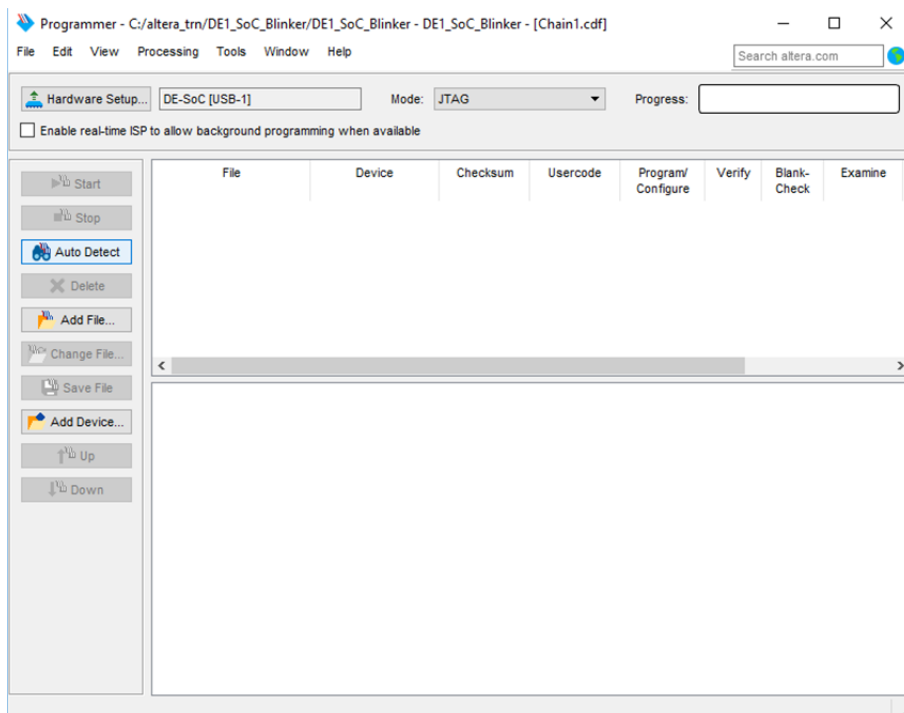

Fig. 101: Programmer with the USB-blaster for DE1-SoC added.
4. Select Close and then "Auto Detect" when returned to the main programmer window (see Fig. 101).